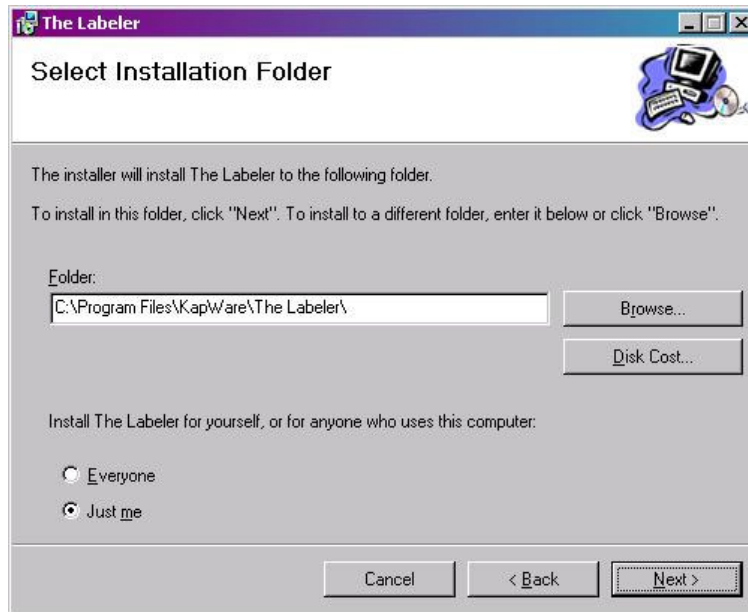

Figure 6.1.1.1.8: Installation Path Screen
6. Select the installation path for where on your computer it will be installed (see Figure 6.1.1.1.9).